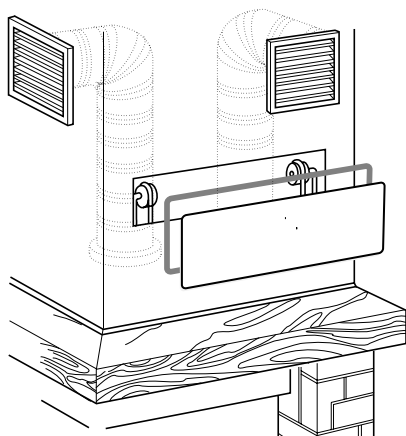

Fig. 5.9
5.9 COUNTER-HOOD AND INSPECTION PANEL (FIG. 5.9)
5.9 CONTROCAPPA E PANNELLO ISPEZIONE (FIG. 5.9)
D**5.9 GEGENHAUBE UND INSPEKTIONSPANEEL (ABB. 5.9)**